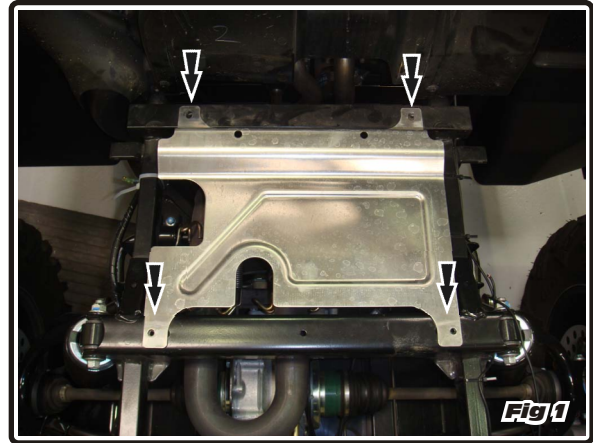

**Fig 4**
9. Insert supplied rubber grommet into front muffler bracket. Then insert Aluminum spacer to the inside of rubber grommet. (See Fig. 4). Install Yoshimura muffler.